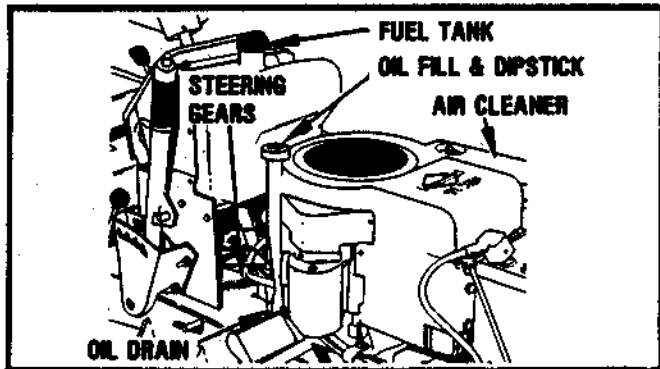

FIGURE 23
ENGINE OIL — FIGURE 23
CHANGE ENGINE CRANKCASE OIL — FIGURE 23
2. Drain crankcase by opening petcock or removing the drain plug, Figure 23, while the engine is warm. Allow the oil to run into a container.
STEERING GEARS — FIGURE 23
Apply a light coat of Ariens Multi-Purpose Grease (Part No. 150) to steering gears every 50 hours of operation. See Figure 23.